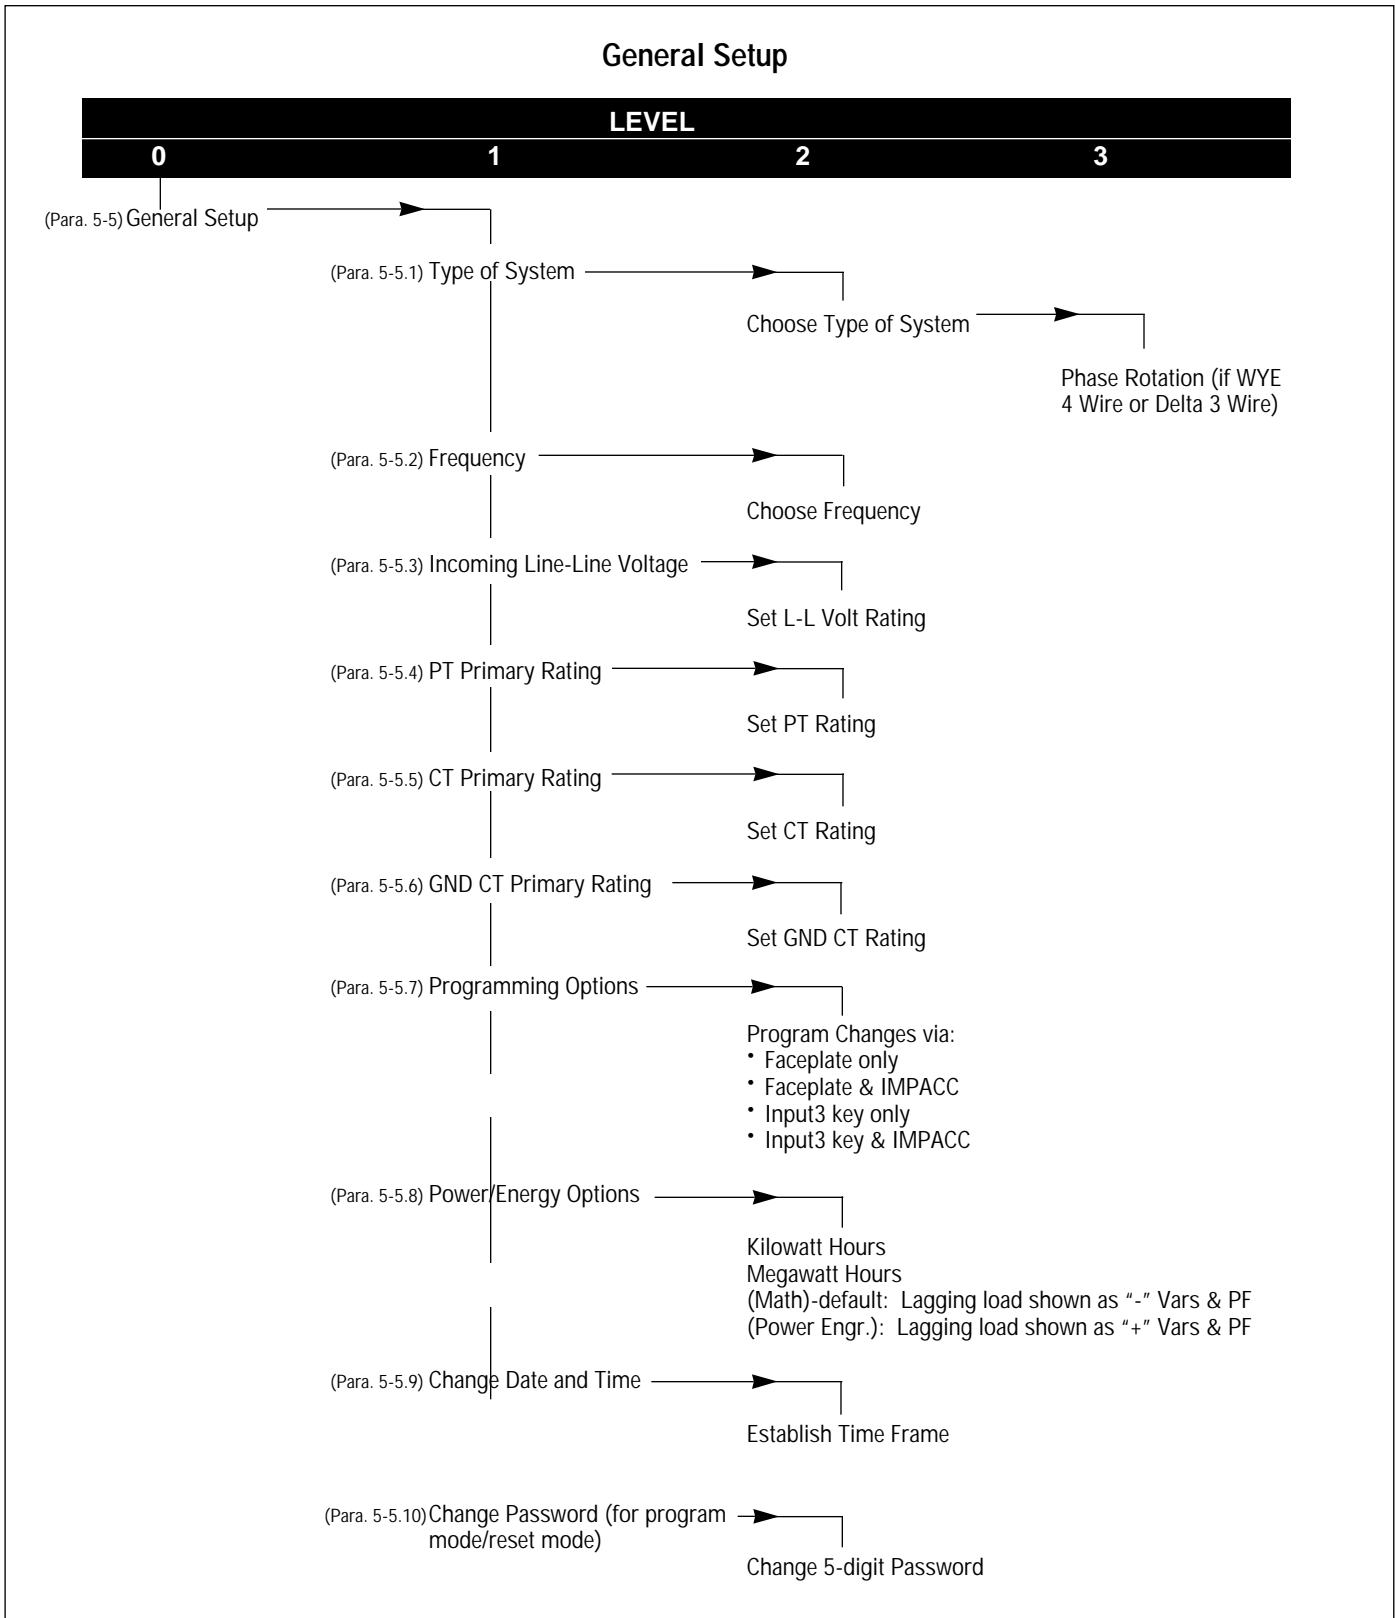
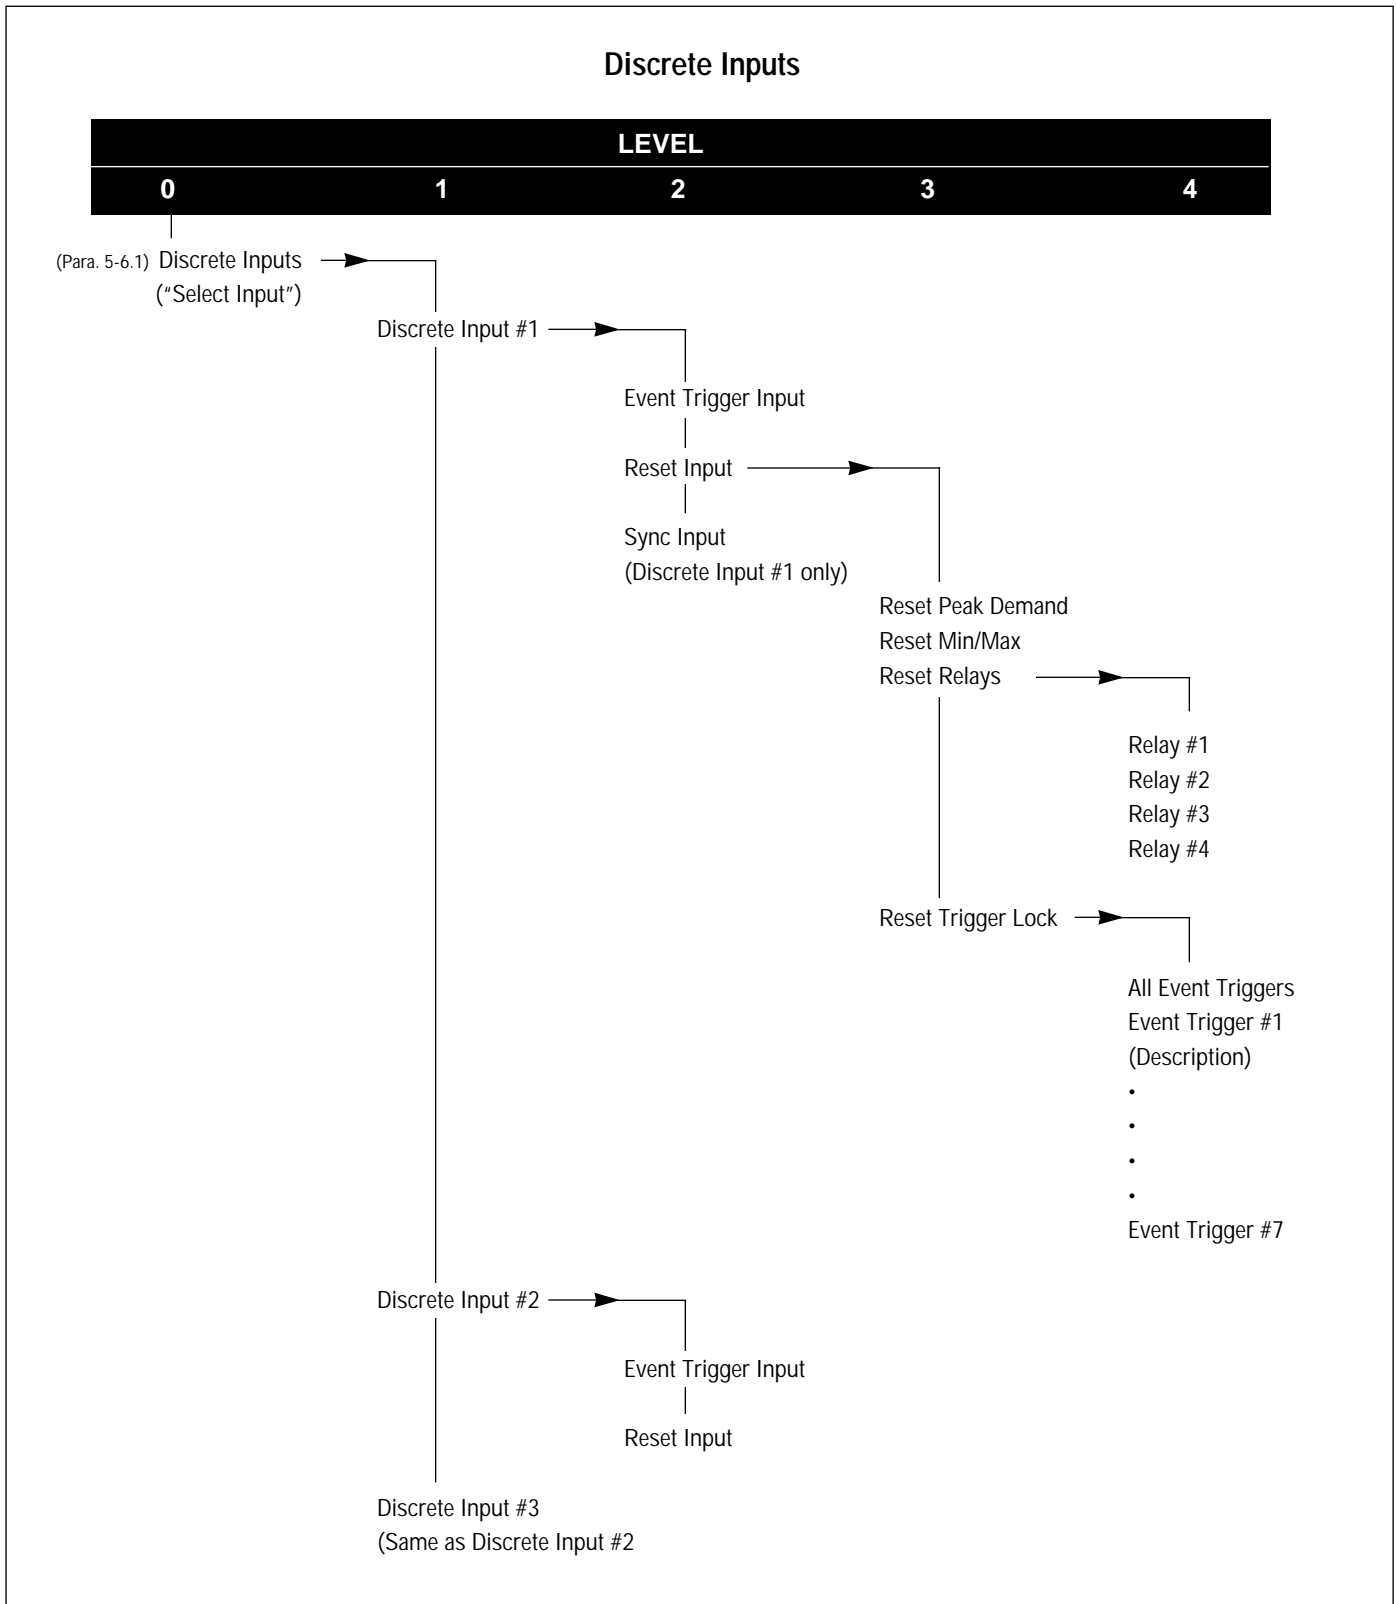

Figure 6-4 General Setup Screens Tree
Figure 6-7 Discrete Inputs Screens Tree
For this example, parameters in the General Setup (Figure 6-4), Discrete Inputs (Figure 6-7), Event
programming selections within each programming category (Paragraph 6-4.2 and Figures 6-4 through 6-11). Some of the Screens Trees are simple with only one level of selections, while other trees cover as high as five levels of selections. The most important aspect to understand about Screens Trees during programming is - *they only differ in size*. The category with the largest Screens Tree is programmed in exactly the same manner as the category with the smallest Screens Tree.
Each programming category takes the form of a screens tree (screen hierarchy) with a number of different descending levels and selections. Use of the F1-F4 pushbuttons as defined in the display moves the operator through the selected category tree and programmable parameters. Figures 6-4 through 6-11 show the actual screens tree for each of the eight programming categories.
1. It further defines the Screens Trees shown in Figures 6-4 through 6-11.
General Setup Setpoints (Figure 6-4)
Discrete Inputs Setpoints (Figure 6-7)